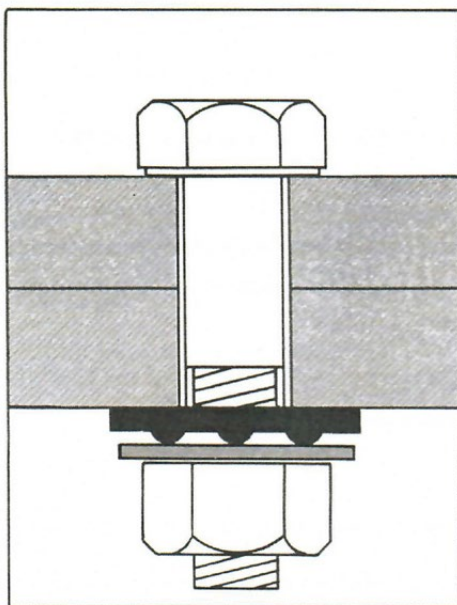

Figure 1. ViewTite Bolting Assembly
1. Install Structural Bolting Assemblies with the ViewTite® DTI on the 'nut side' of the connection with the bumps facing outward. Place an F436 hardened washer on top of the ViewTite® DTI, and place a hardened 2H or DH nut over the hardened washer. (See Figure 1 below)